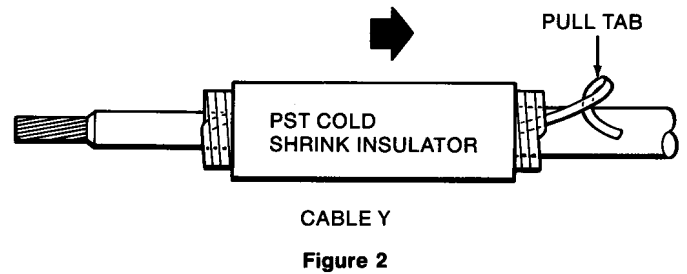

Figure 2
1. Slide longer PST Cold Shrink insulator onto cable "X" jacket and the shorter PST onto cable "Y" jacket directing pull tabs away from cable ends as shown in Figure 2.